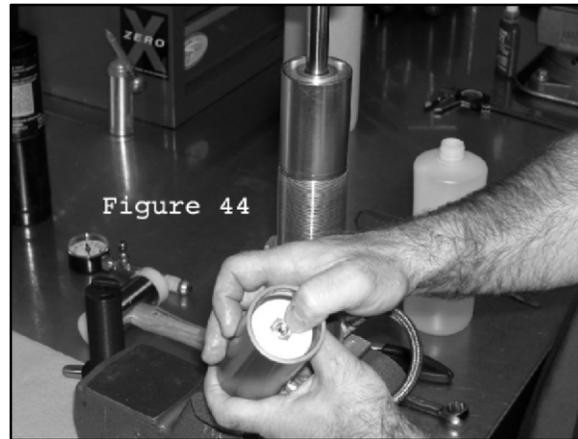
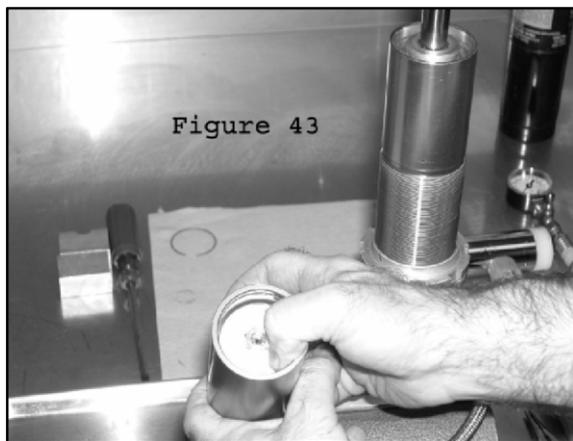

Figure 44
Figure 43
79. Install the reservoir end cap with the air valve facing the outside of the reservoir tube. (Fig. 43) Push down on the reservoir end cap using even pressure, until the retaining ring groove is exposed. (Fig. 44) Install the wire retaining ring, and check to make sure retaining ring is seated properly. Push the shaft assembly completely into the body tube. If reservoir cap is not properly seated against the retaining clip, tap it gently with a rubber mallet until it snaps into place. Remove shock assembly from vise.